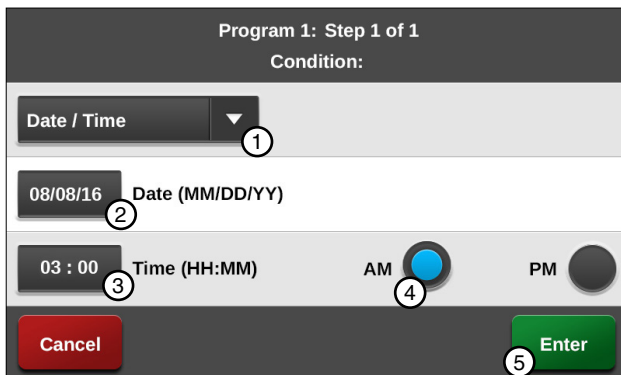

Figure 124-2 1. Date/Time Command
- a) Select the **Choose Condition** drop-down menu and choose **Date/Time**. Refer to Figure 124-2.